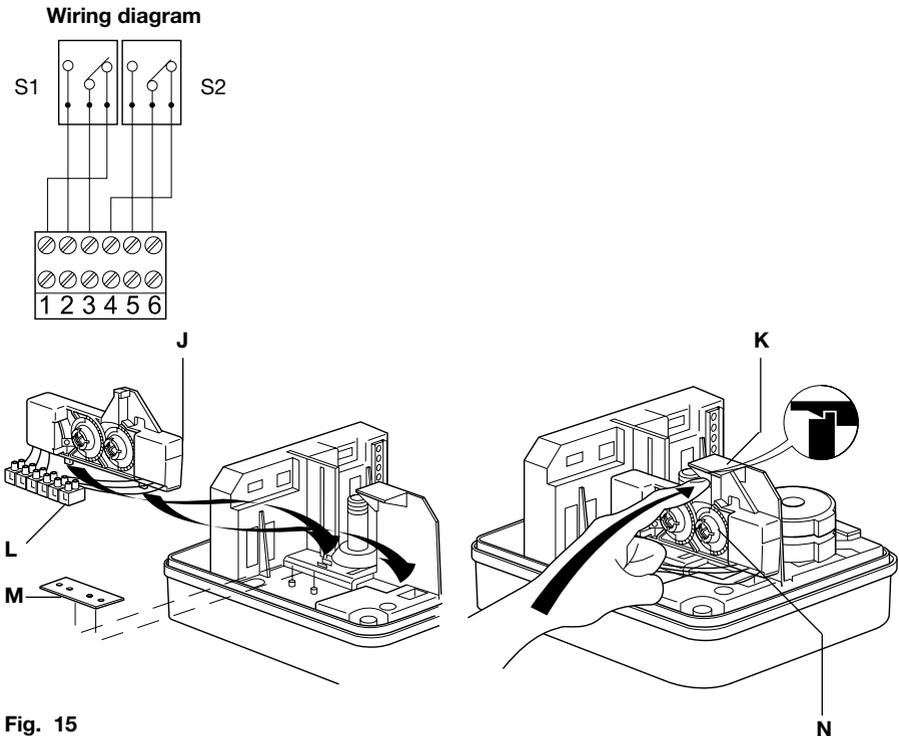

Fig. 15
1. Using the two lugs on the bottom of the switch assembly (**J**) locate it on the actuator base panel. See Figure 15.
5. Connect the cables following the wiring diagram shown in Figure 15. **Note:** The cables must be neatly retained to prevent them being damaged when fitting the lid or snagging on the switch assembly.